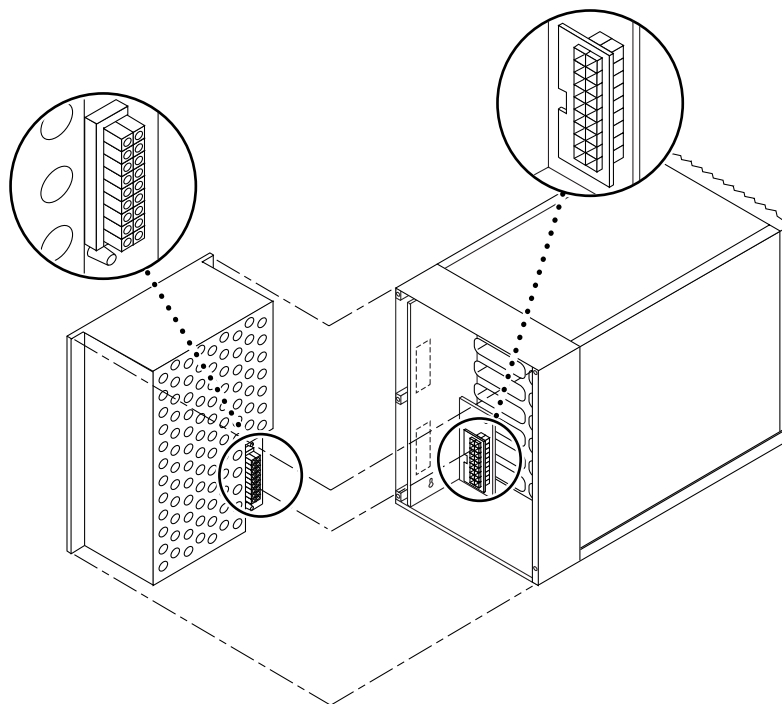

FIGURE 6-3 Power Supply Connection to Backplane
The connector at the back of the power supply connects it to the backplane (FIGURE 6-3). Because of this connection, the power supply will not slide out of the unit easily. Slowly work the power supply loose from the connector as you remove it from the enclosure.
1. **Align the power supply at the back of the unit so that the connector on the power supply lines up with the connector on the backplane (FIGURE 6-3).**